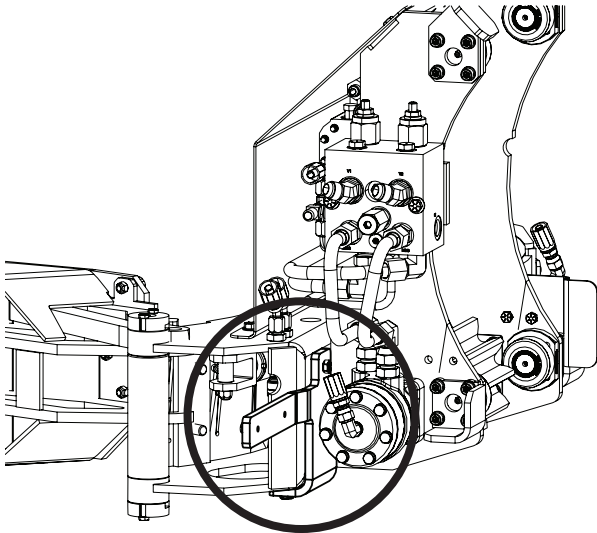

Figure 8
15. Remove and discard the hydraulic tube clamp bracket (Figure 8 backside of grabber shown). Retain the hardware.